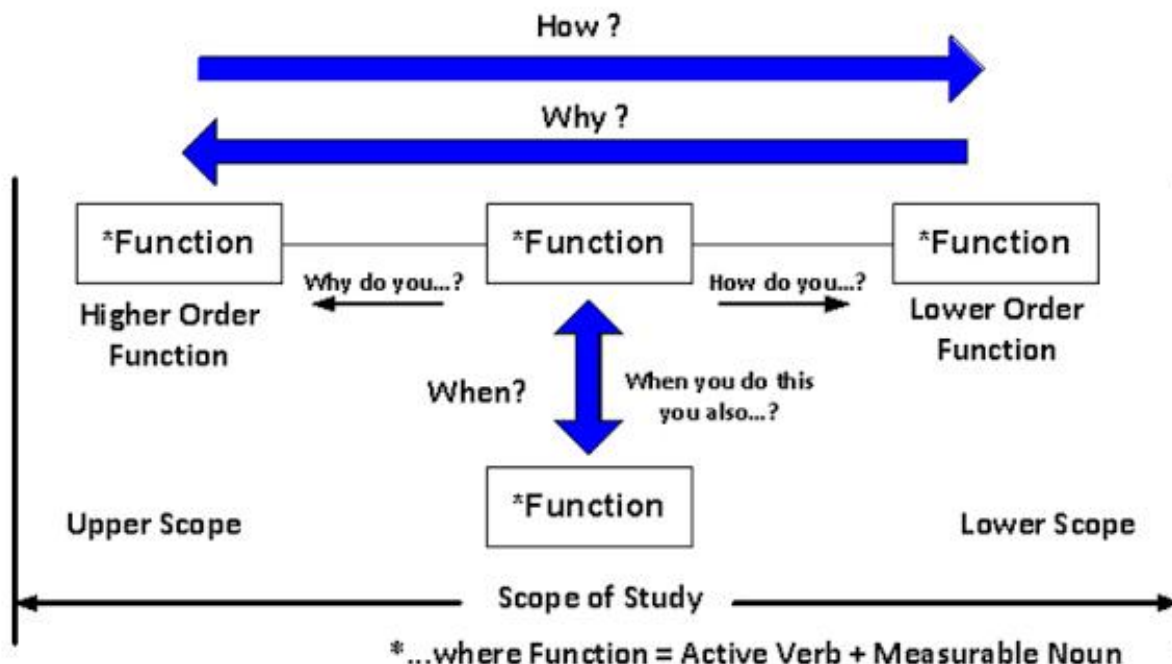

Figure 1: Functional Analysis System Technique Diagram (Source: <http://www.valueanalysis.ca/fast.php>)
This identification may be done with FAST (Functional Analysis System Technique). FAST considers why each function is done, and then how each function is done, to develop a chart of higher and lower order functions of the system. Figure 1 below shows a diagram of the FAST process. This process is expected to be completed on Day 1.
- Functions that occur together with or as a result of each other can be plotted vertically, as shown in Figure 1 above.